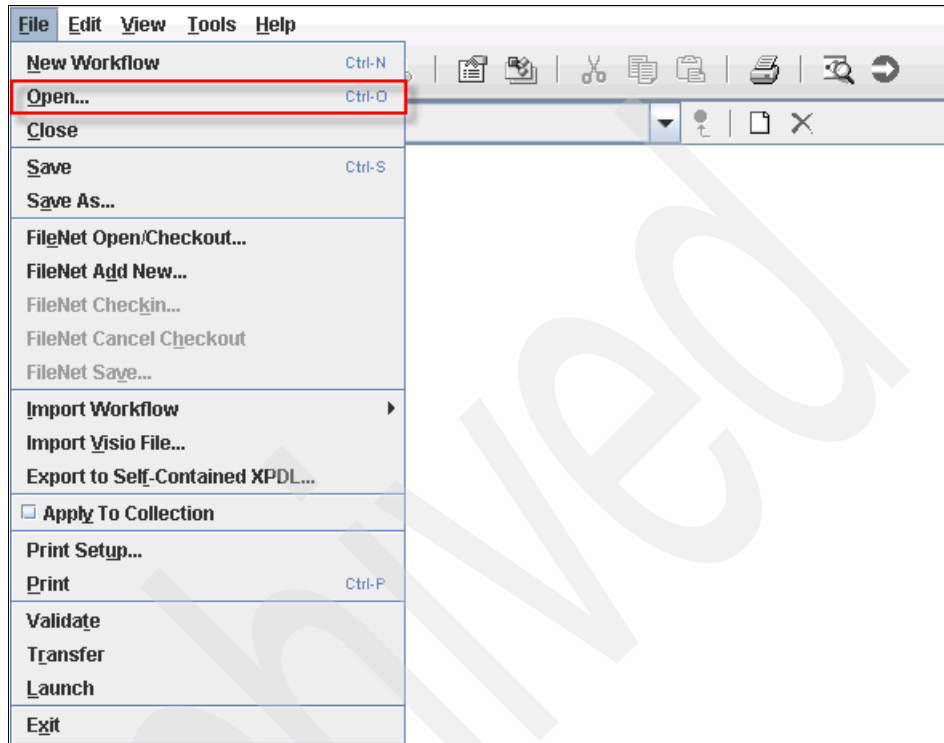

Figure 7-40 Opening a file in FileNet P8 Process Designer
3. When the Process Designer applet is loaded, select **File** → **Open** (Figure 7-40).